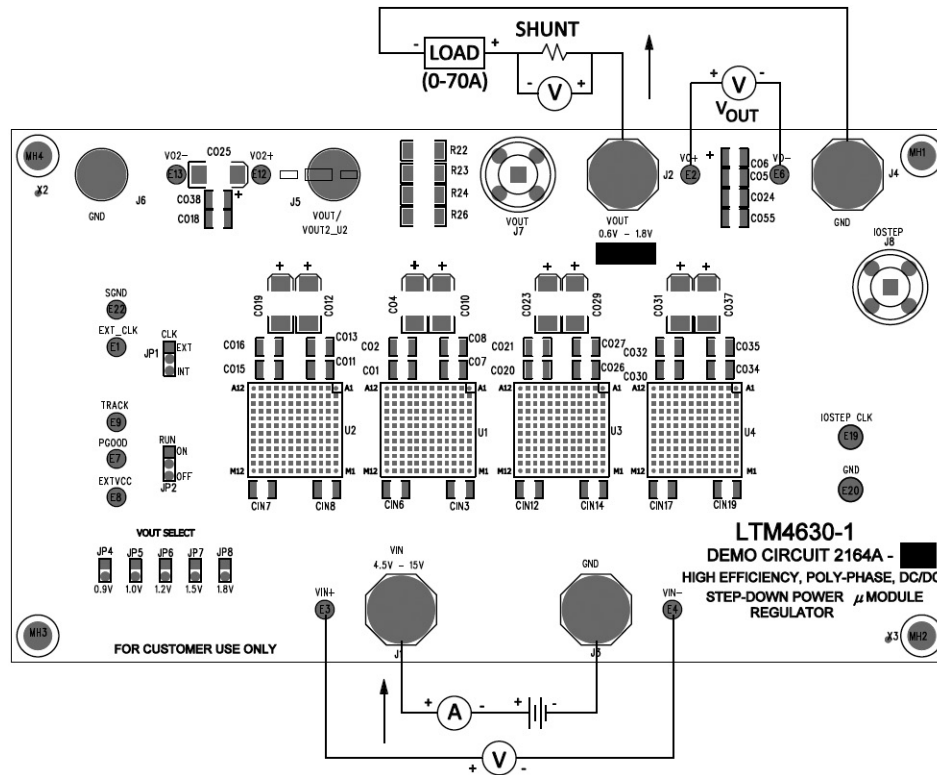

Figure 2. Test Setup of DC2164A-A
Demonstration circuit 2164A-A is easy to set up to evaluate the performance of PloyPhase operation of the LTM4630EY-1. Due to the high input/output current, user should select the proper input supply/load/cable which can sustain the full load operation. It's recommended to pull load current from J2 and J4. The load current pulled from J5 and J6 shouldn't exceed 18A. Please refer to Figure 2 for proper measurement setup and follow the procedure below:
2. With power off, connect the input power supply, load and meters as shown in Figure 2. Preset the load to 0A and V_{IN} supply to 12V.